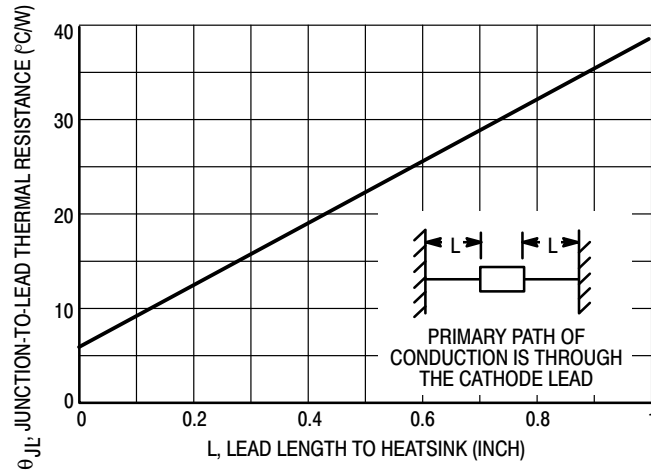
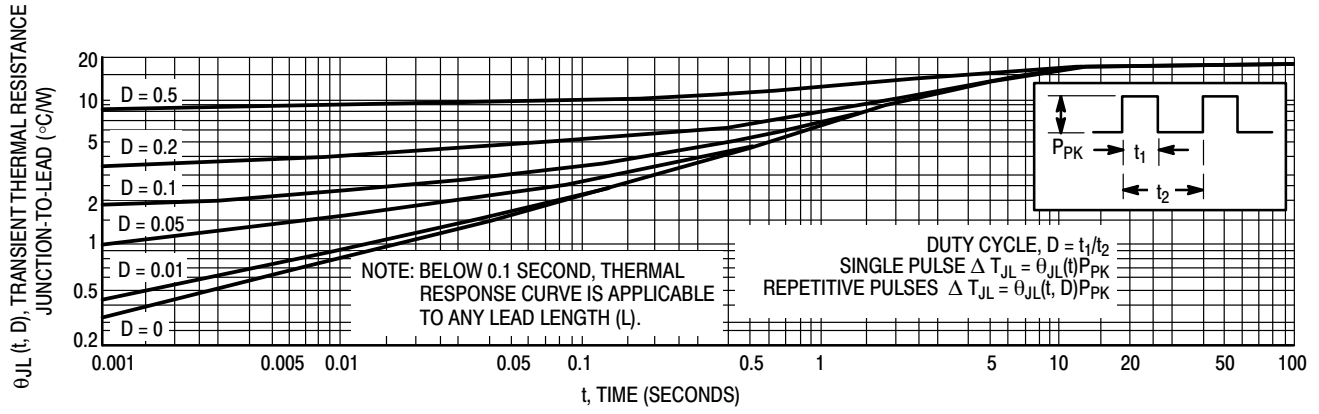
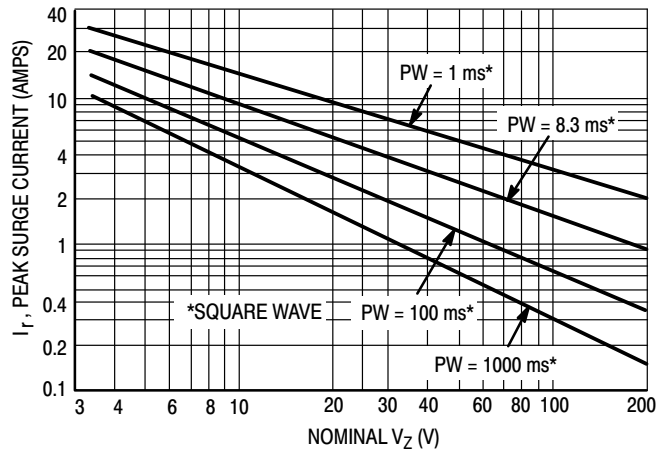
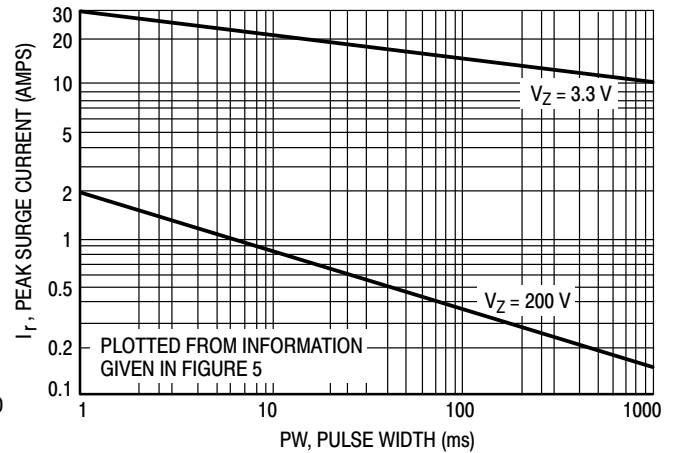

Figure 1. Typical Thermal Resistance
Figure 4. Typical Thermal Response
Figure 5. Maximum Non-Repetitive Surge Current
Figure 6. Peak Surge Current versus Pulse Width
- SURGE CURRENT (I_R):** Surge current is specified as the maximum allowable peak, non-recurrent square-wave current with a pulse width, PW, of 8.3 ms . The data given in Figure 5 may be used to find the maximum surge current for a square wave of any pulse width between 1 ms and 1000 ms by plotting the applicable points on logarithmic paper. Examples of this, using the 3.3 V and 200 V zener are shown in Figure 6. Mounting contact located as specified in Note 2 ($T_A = 25^\circ\text{C} + 8^\circ\text{C}, -2^\circ\text{C}$).
- SURGE CURRENT (I_P):** Surge current is specified as the maximum allowable peak, non-recurrent square-wave current with a pulse width, PW, of 8.3 ms. The data given in Figure 5 may be used to find the maximum surge current for a square wave of any pulse width between 1 ms and 1000 ms by plotting the applicable points on logarithmic paper. Examples of this, using the 3.3 V and 200 V zener are shown in Figure 6. Mounting contact located as specified in Note 7 (T_A = 25°C +8°C, -2°C).
ΔT_{JL} is the increase in junction temperature above the lead temperature and may be found from Figure 4 for a train of power pulses or from Figure 1 for dc power.
Data of Figure 4 should not be used to compute surge capability. Surge limitations are given in Figure 5. They are lower than would be expected by considering only junction temperature, as current crowding effects cause temperatures to be extremely high in small spots resulting in device degradation should the limits of Figure 5 be exceeded.